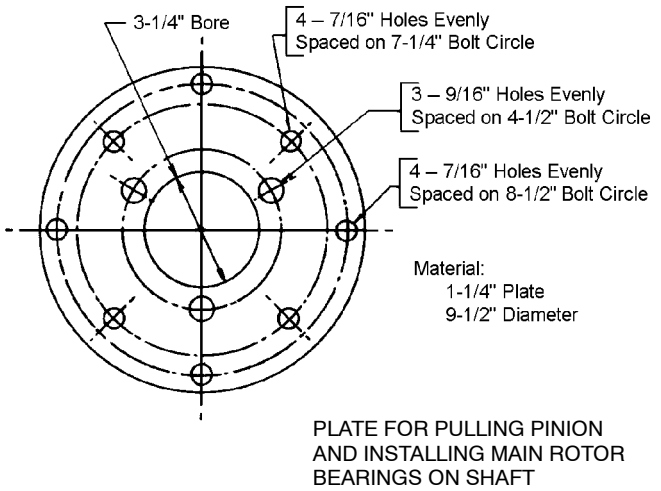

FIGURE 2 - ADAPTOR PLATE
2. Provide adaptor plate, FIGURE 2, page 23, for pulling the pinion gear and for installing main rotor bearings.